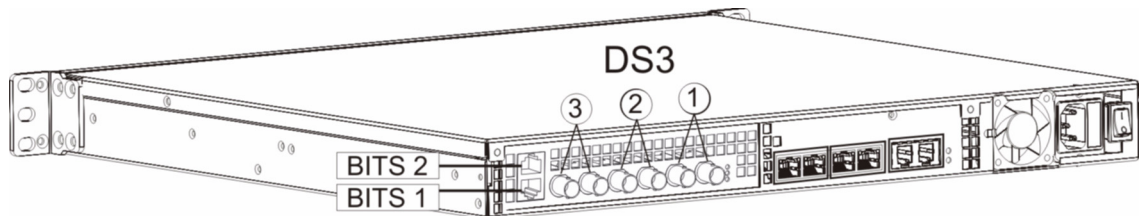

Figure 2.8 DS3 Interface to the PSTN
A TMP6400 with 3 sets of BNC connectors enables the connection to DS3 lines. See figure 2.8 on page 19
1. Start with the Dual BNC port pair #1 in the right-most position as shown in figure 2.8 on page 19. Connect one pair of BNC cables between this port and the DS3 line.